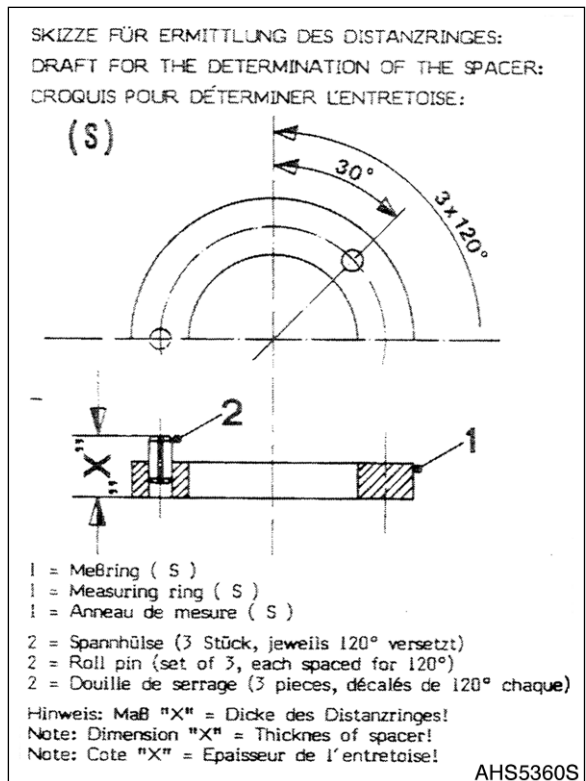

Figure 161
NOTE: Configuration and description of the measuring ring, See Figure 161.
7. Take off measuring ring and determine dimension "X" see Figure 161.